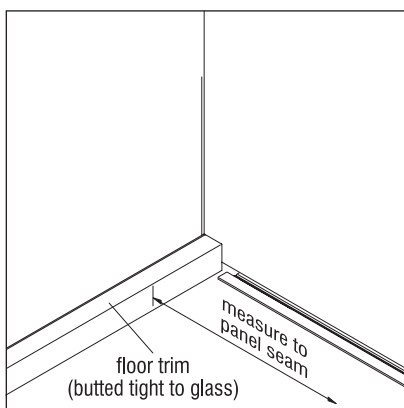

Figure 5 - Measure To Panel Seam
2. Install the first cut trim to the base trim retainer clip installed on floor channel (see page 25), butting it tight to the surface of the adjacent glass panel (Figure 5).
3. Measure from the inside surface of the previously installed trim to the furthest panel seam that the 10' trim section can reach. Cut trim to that dimension (Figure 5).